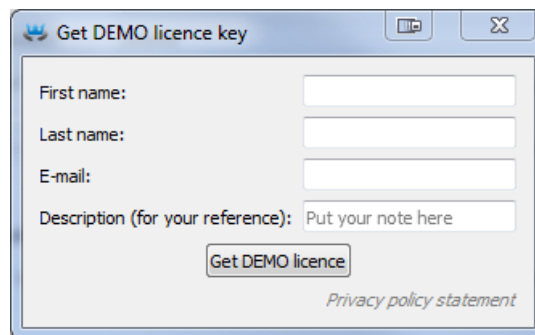

Figure 3.3: DEMO License Dialog
*Get DEMO Licence:* Select this option if you want to obtain a DEMO licence directly by filling-in name and email address to which a licensing key is sent (figure 3.3).